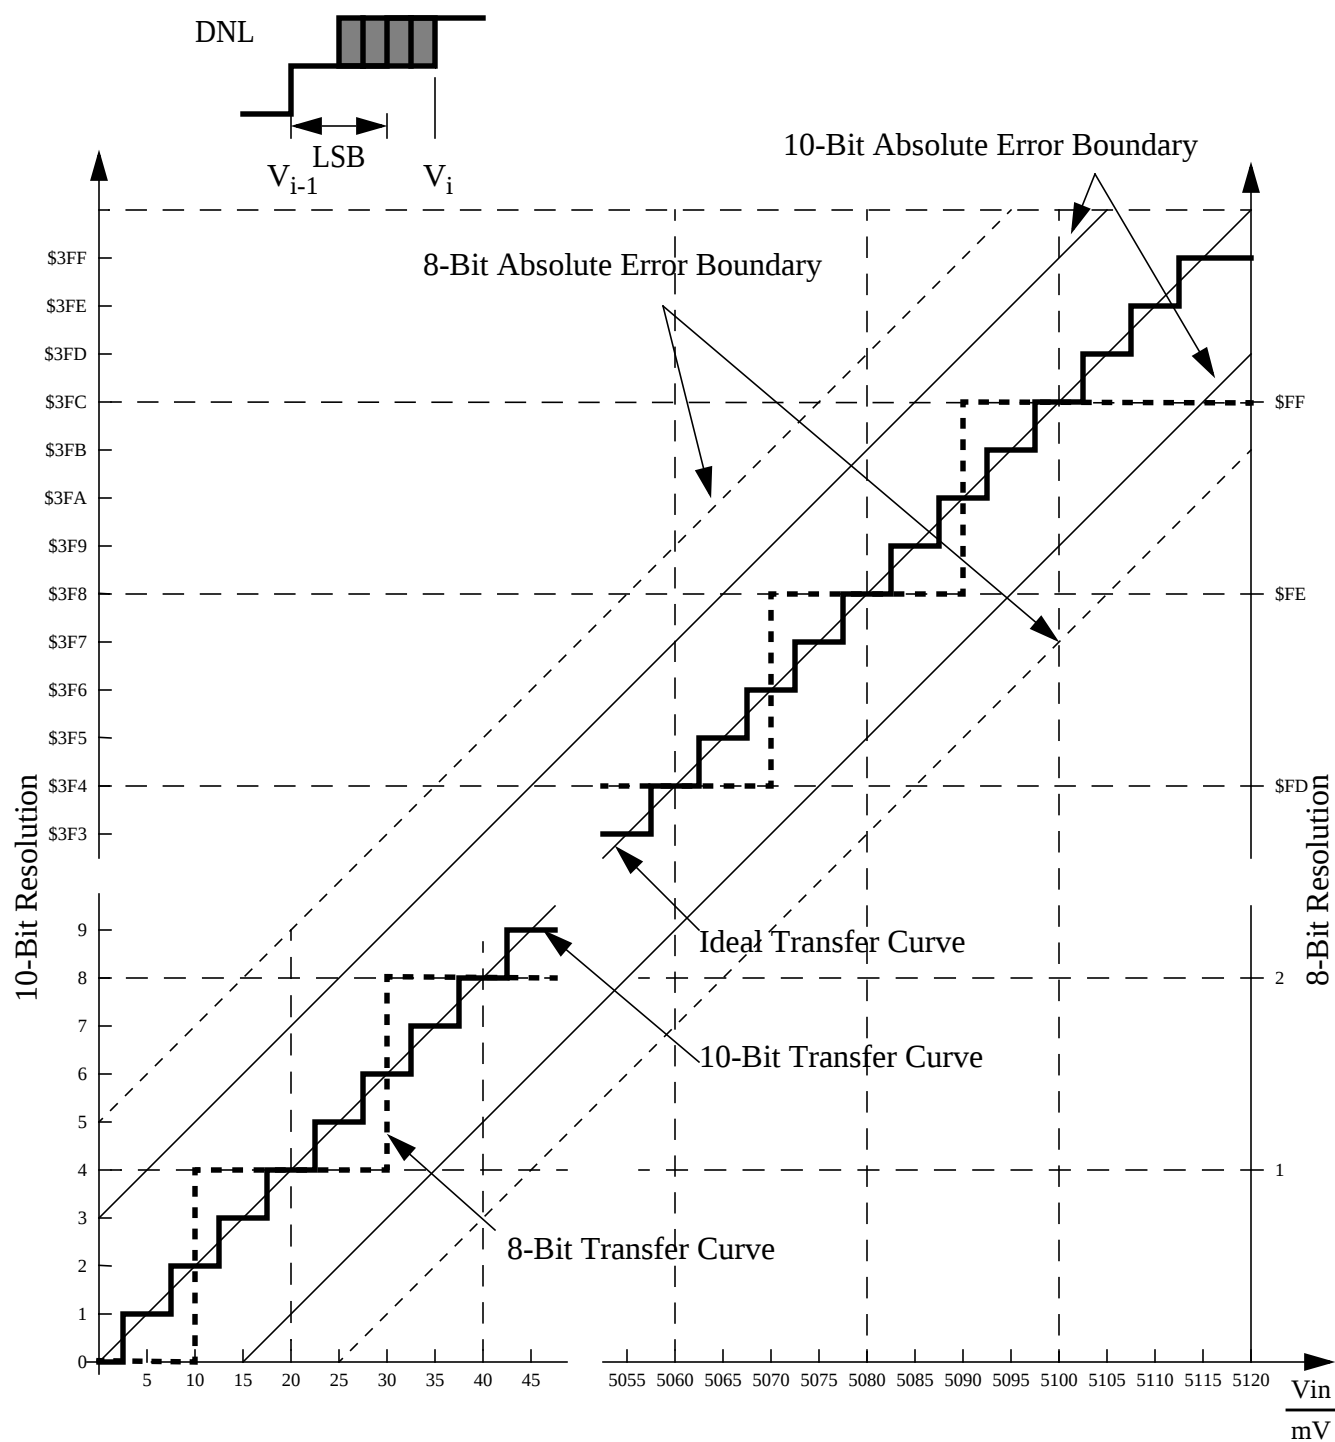

Figure A-1 ATD Accuracy Definitions
For the following definitions see also **Figure A-1**.
**NOTE:** Figure A-1 shows only definitions, for specification values refer to **Table A-10**.